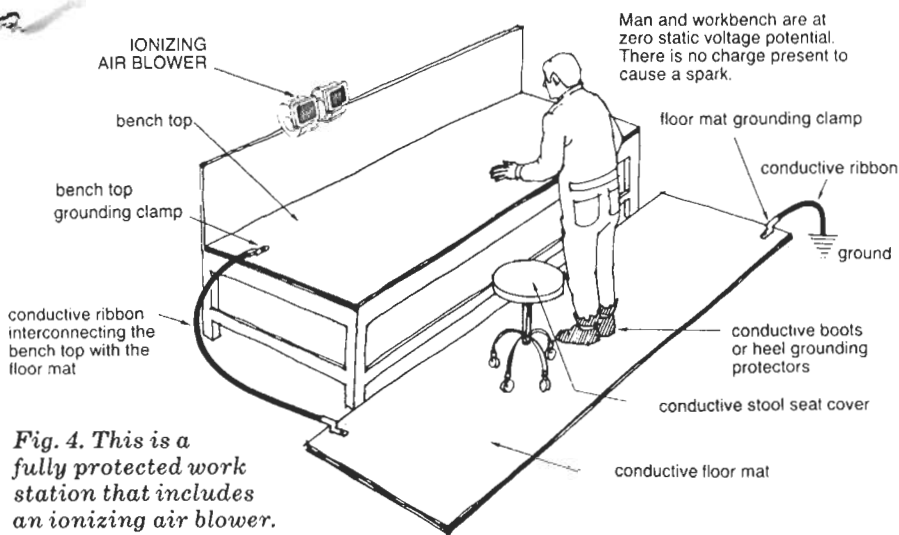

Fig. 4. This is a fully protected work station that includes an ionizing air blower. (Photo courtesy 3M Co.)
**Protected Workbench.** A typical commercial work station that is fully protected is shown in the lead photo. Here, the technician is wearing a conductive plastic apron, is sitting on a conductive seat cover, and has her feet on a conductive floor mat. The top of the workbench is covered with a sheet of conductive plastic, and a conductive-plastic strap is attached to her bare wrist. A somewhat similarly protected work station is shown in Fig. 4. Here, the station is equipped with an optional ionizing air blower. In both cases, the entire work area, including the technicians, are at the same potential. And since there are no voltage differences, there can be no damaging static discharges that can destroy MOS devices.